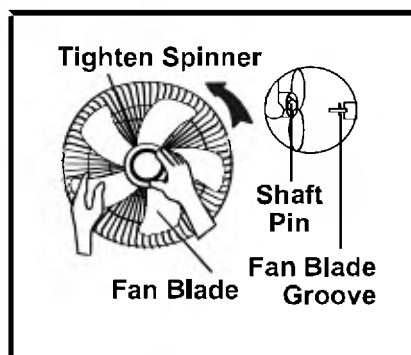

Fig2
7. Insert the Blade into the Shaft ensuring Blade groove is locked into the locating Shaft Pin (Fig2) then tighten with the Spinner Nut. To tighten the Spinner Nut rotate anti-clockwise.